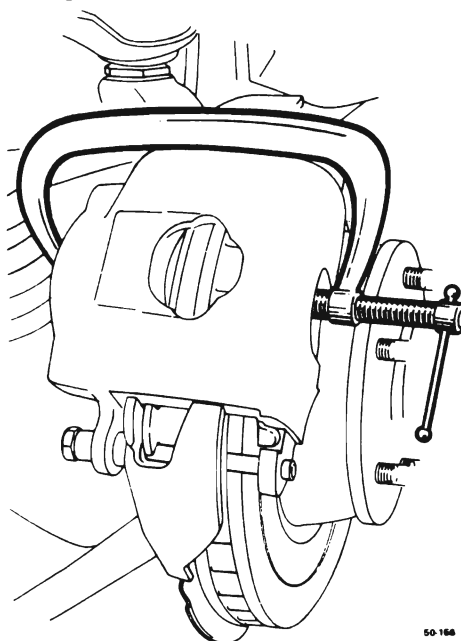

Figure 50-32 Use of C Clamp
2. Raise the car and remove the wheel covers and wheel assemblies. Position a 7 inch "C" clamp on the caliper so that the solid side of the clamp rests against the inside of the caliper and the screw end rests against the metal part of the outboard shoe. See Figure 50-32. Tighten the "C" clamp until the caliper moves away from the car far enough to push the piston to the bottom of the piston bore. This will allow the shoes to back off the from the rotor surfaces. Remove the "C" clamp.